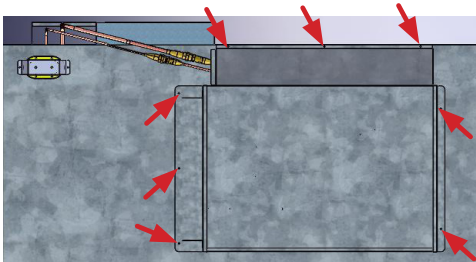
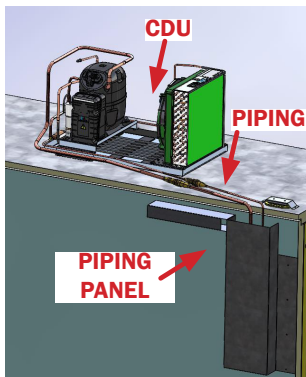

Fig. 10 CDU housing screw locations (top view)
Fig. 11 Remove CDU housing
2. On the CDU housing, there are a total of (8) screws that will need to be removed: (3) at the back, (3) on the left, and (2) on the right side (Fig. 10). Once the screws are removed, cover can be lifted and removed (Fig. 11). Retain all screws and sheet metal that are removed.